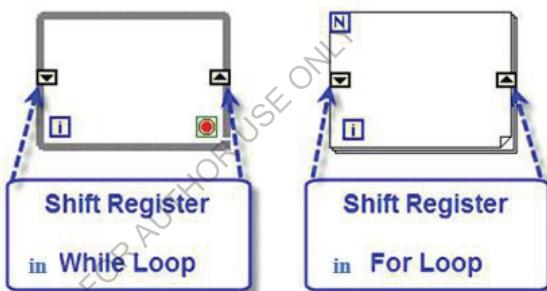

Figure 2.129: Shift Register
**Shift Register** moves data from one implementation for For-Loop or While Loop to the next one. The **Shift Register** consists of these two formats  and , as shown in figure 2.129.